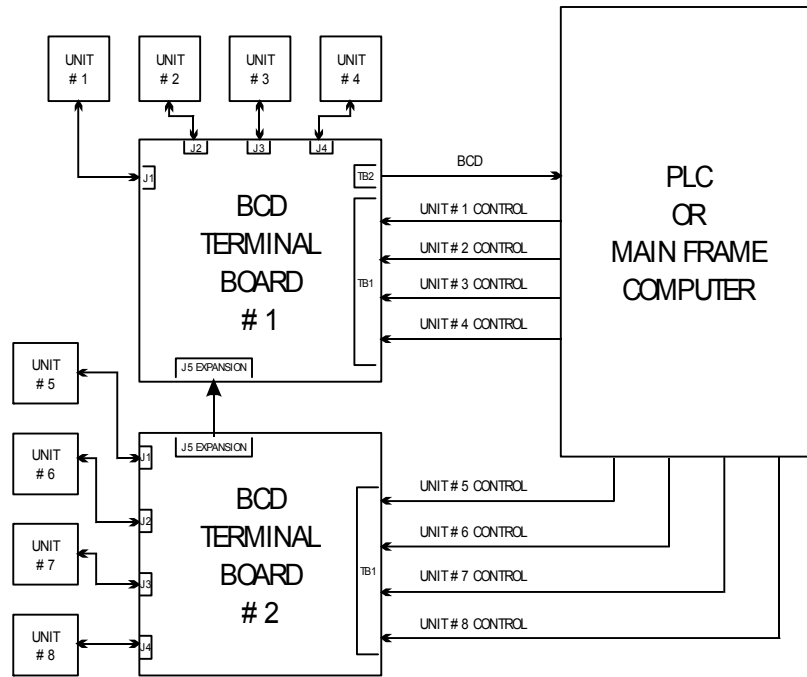

FIG. 3-16 BCD TERMINATION INSTALLATION BLOCK DIAGRAM
- Step 10. Connect data/status lines from BCD terminal board to computer. (See Fig. 3-16)